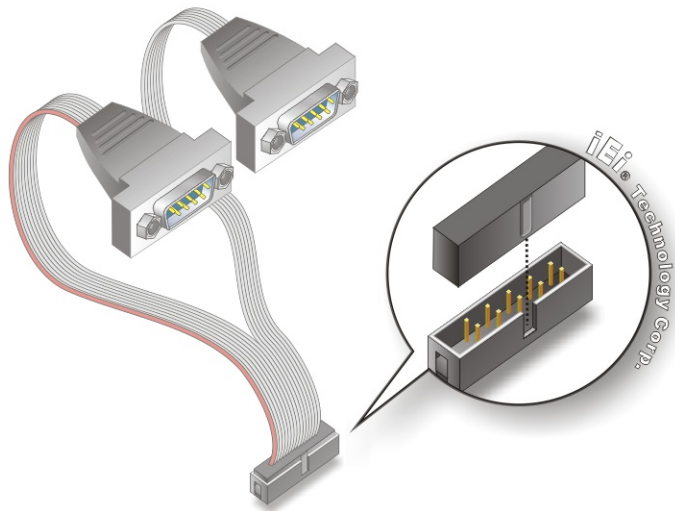

Figure 5-13: Dual Serial Port Connector Cable Connection
Step 3: **Insert the cable connectors** Once the cable connector is properly aligned with the COM3 serial port connector on the 2807740, connect the cable connector to the onboard connectors. See **Figure 5-13**.